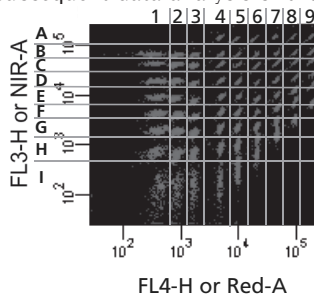

Figure 1
The BD FACSCalibur can accurately distinguish the dual-color BD CBA Flex Set beads in the 30-plex comprised of the beads between A4 – E9 (Figure 1). However, due to the inherent properties of the dyes used in the beads, the BD CBA assay reporter, phycoerythrin (PE), and the instrument optics, the actual distinguishable plex size may be less than 30. This lower number of distinguishable bead populations is because one of the dyes used to index the beads and PE are both excited by the blue (488 nm) laser. Thus, compensation between the bead channel (FL3) and the reporter channel (FL2) must be established. In instances where the PE signal is high (eg, high analyte concentrations) the PE signal spills over into the FL3 channel, causing an increase in mean fluorescence intensity (MFI). This increase in MFI can lead to bead clusters merging and possible misidentification by FCAP Array™ software.